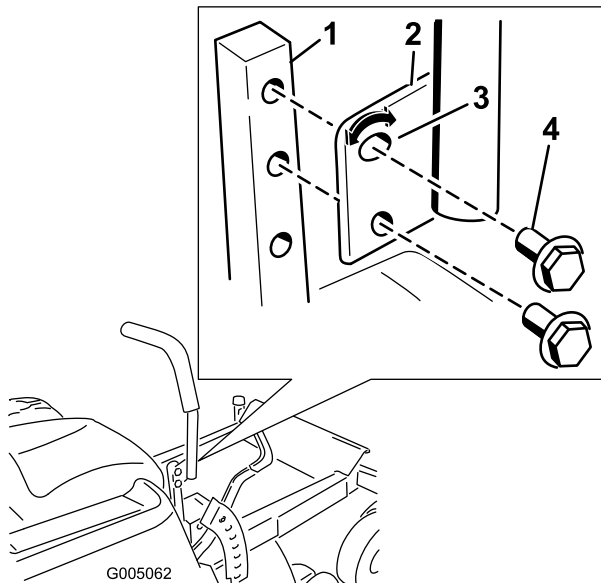

Figure 16
1. Remove the 2 bolts holding the control lever to the control arm shaft (Figure 16).
2. Move the control lever to the next set of holes. Secure the lever with the 2 bolts (Figure 16).
2. Loosen the lower bolt just enough to pivot the control lever fore or aft (Figure 16). Tighten both bolts to secure the control in the new position.